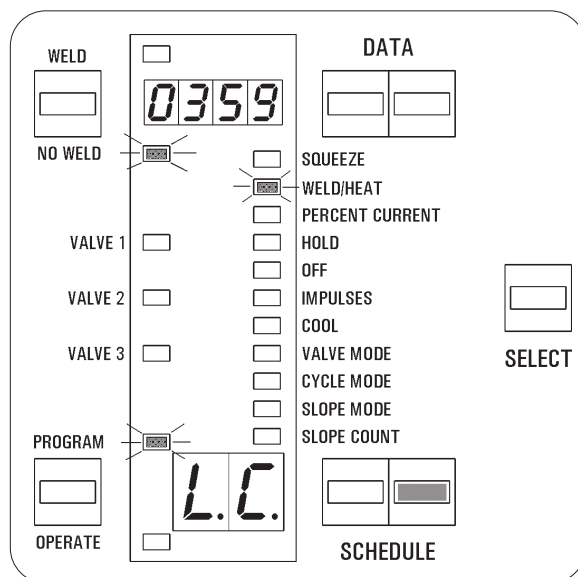

Figure 7-5. Program LAST COUNT
5. Press the SCHEDULE push buttons to find **L.C.** in the SCHEDULE display, as shown in Figure 7-5.
6. Program the desired LAST COUNT for this stepper; e.g., for stepper **A**, LAST COUNT may be any number from **0000** to **9999**, as shown in Figure 7-5. In fact, this value will be first count at beginning of the weld sequence. This value will be reset or reprogrammed after resetting the stepper.